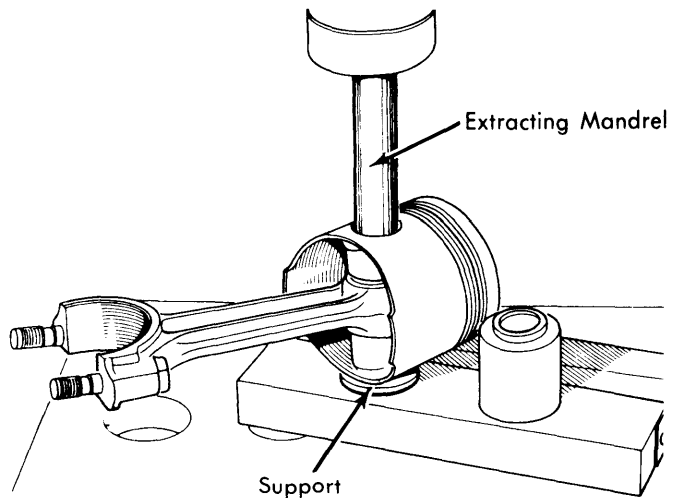

Fig. 5 Special Tool Assembly Mot. 255 for Extracting Piston Pin
1) After removing Piston assembly from liner, remove rings. Using suitable tool (Mot. 255) shown in Fig. 5 piston can be removed. Extract pin with appropriate adaptors.